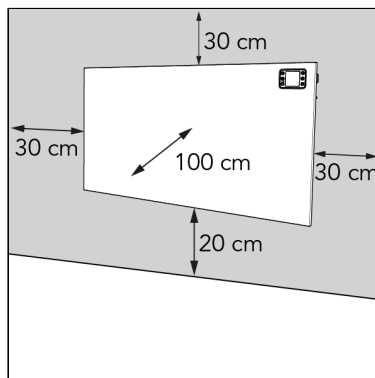

Figure 29.
2. Place the device with a minimum distance (Figure 29) of: